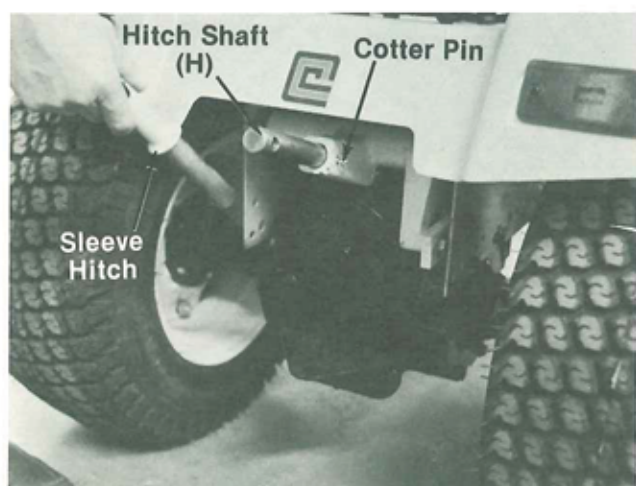

FIGURE 5.
3. Assemble new hitch shaft (H) with cotter pin removed in step 2. See figure 5.